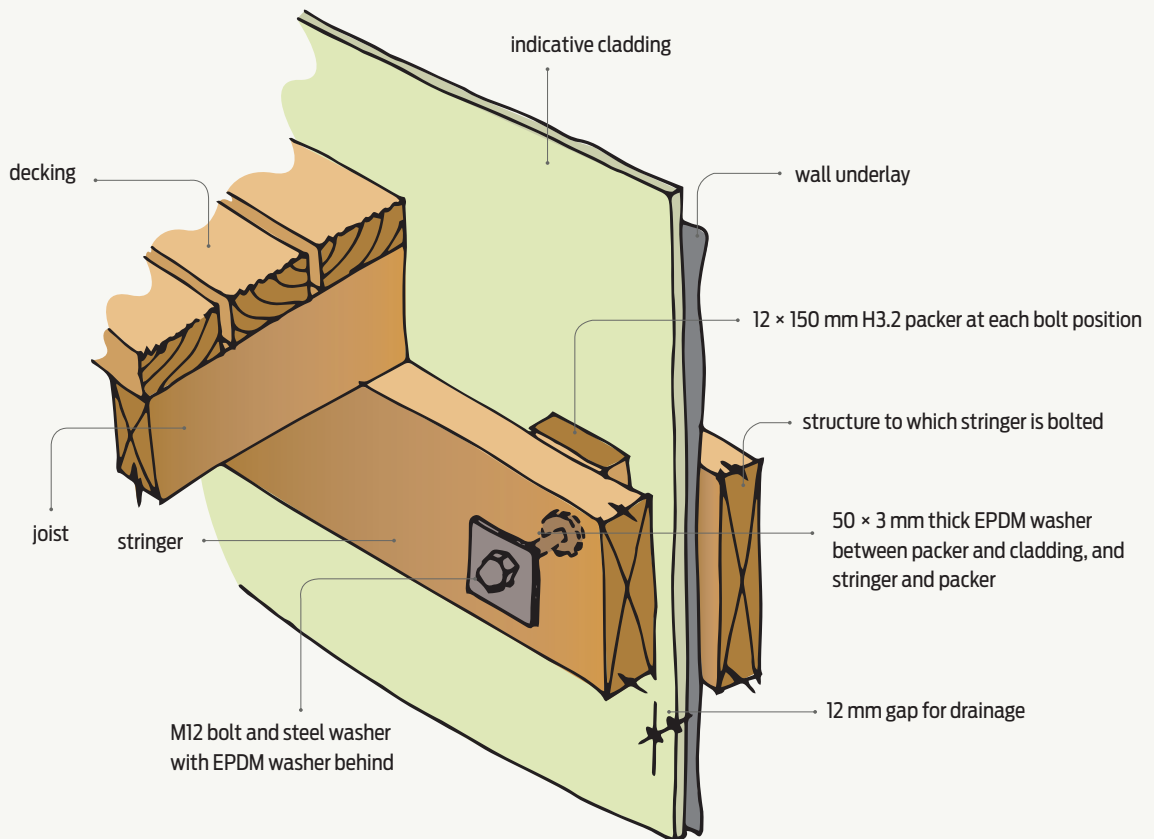

Figure 2
- a 12 mm minimum gap between the building cladding and decking for drainage and maintenance (E2/AS1 paragraph 7.1.1) (see Figures 2 and 3)